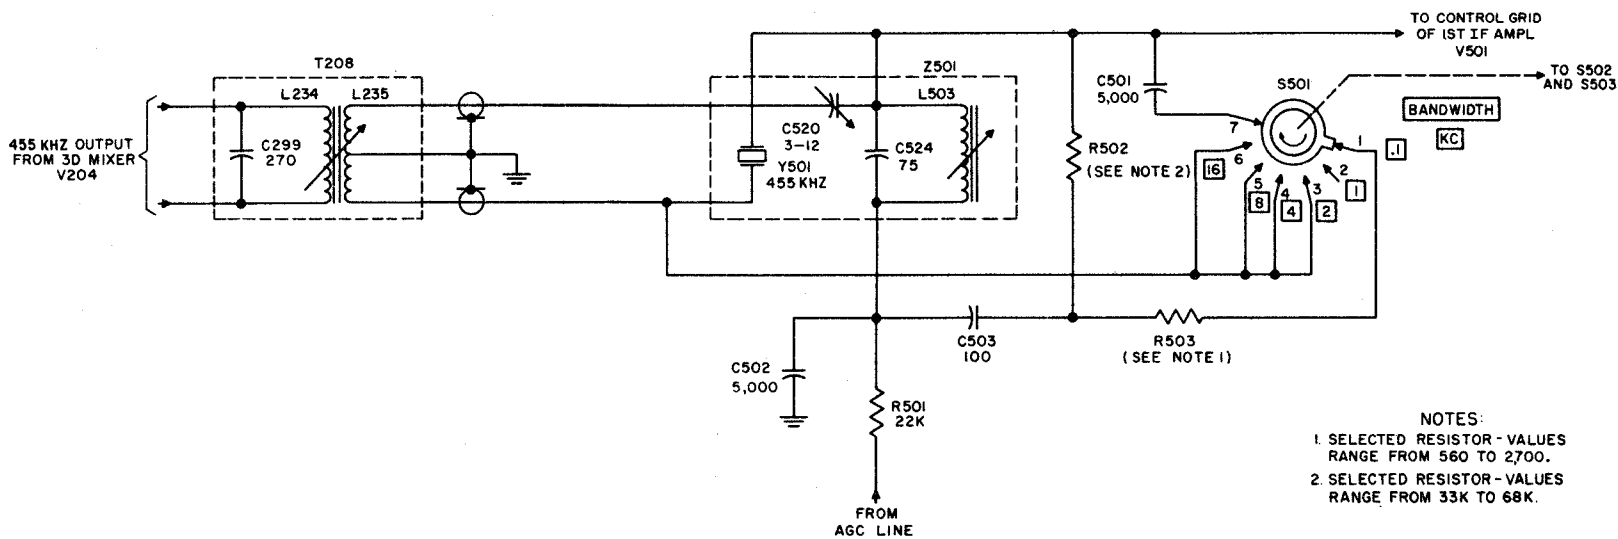

Figure 3-4. Crystal Filter, Simplified Schematic Diagram
**3.2.9.1** The crystal filter (figure 3-4) is used to obtain selectivities of 0.1 and 1 kHz. When the BANDWIDTH switch is set to .1 or 1, this filter is connected between the output of third mixer V204 and the input to first IF amplifier V501. The 455 kHz output signal is coupled from third mixer transformer T208 to crystal filter Z501. The crystal passes only those signals at or very close to 455 kHz. Crystal holder and stray capacitances are neutralized by adjusting C520. Coil L503 and capacitor C524 are tuned to 455 kHz.